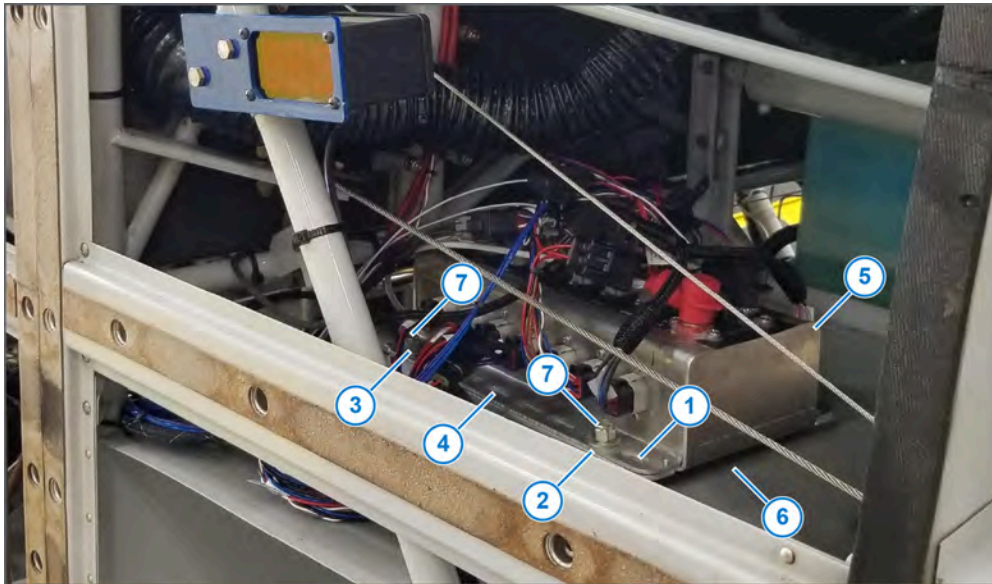

Figure 21: Gateway Hub on Top of the Luggage Compartment
2. Use the slots (Figure 21, Item 1) in the Gateway hub housing as a guide to match drill three holes on each side on the Gateway—bottom (Figure 21, Item 2), top (Figure 21, Item 3), and center (Figure 21, Item 4) on each side of the Gateway.
3. Install the Gateway hub (Figure 21, Item 5) to top of the luggage compartment (Figure 21, Item 6) with the supplied hardware (Figure 21, Item 7)—3/8-24 x 31/32 hex bolts, 3/8 flat washers, and 3/8-24 nuts.
See Figure 21